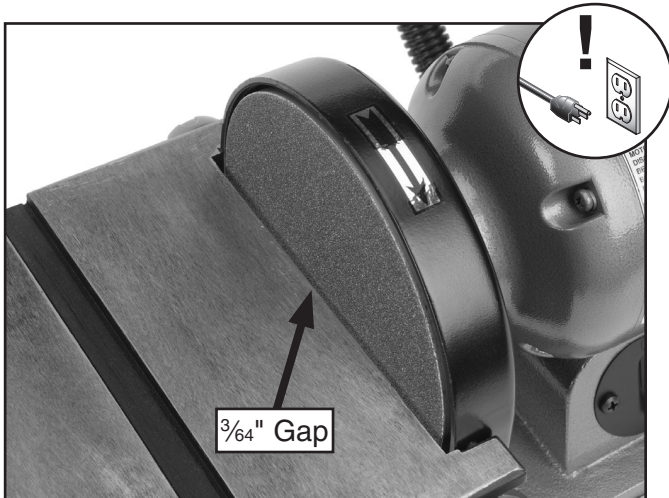

Figure 6. The gap between the table and the disc.
3. Adjust the table so that there is $\frac{3}{64}$ " or 1 mm between the table and the sanding disc as shown in **Figure 6**.